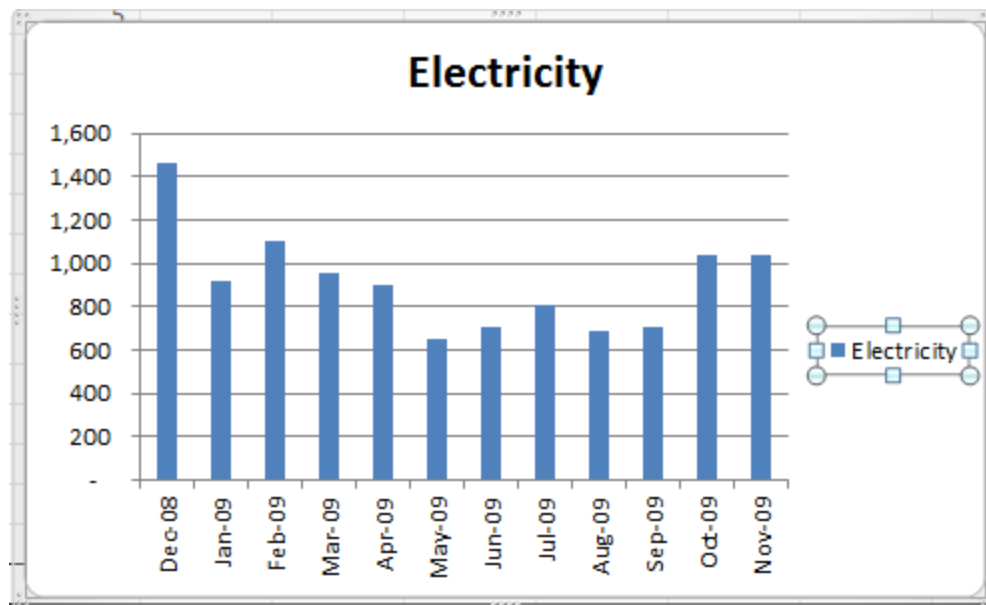

Figure 3.20. Legend selected
- the program correctly identified the sequence of months as the independent variable that should be arranged along the horizontal (X) axis
5. Because there is only one set of colored columns in this chart, the legend is not needed. Click the legend to select it as shown in Figure 3.20.